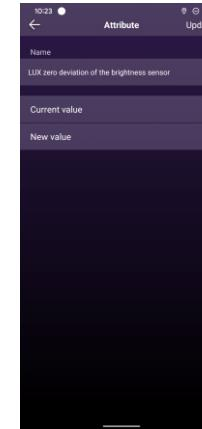
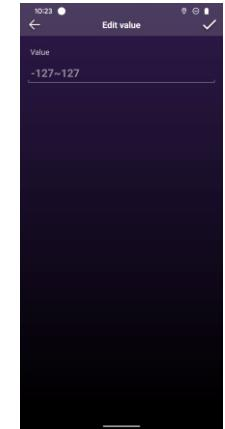

Figure 29
Figure 30
18. The attribute “**Lux zero deviation of the brightness sensor**” is to set the compensation lux value for the detected brightness to prevent deviation of the detected brightness value. Tap it to enter setting interface, “**Current value**” means current compensation value, “**New value**” is to set a new compensation value, available setting range is -127~127lux, factory default is 0. Once set a new value, tap “**Update**” button at upper right corner to save the setting (as shown in **Figure 29 & Figure 30**).